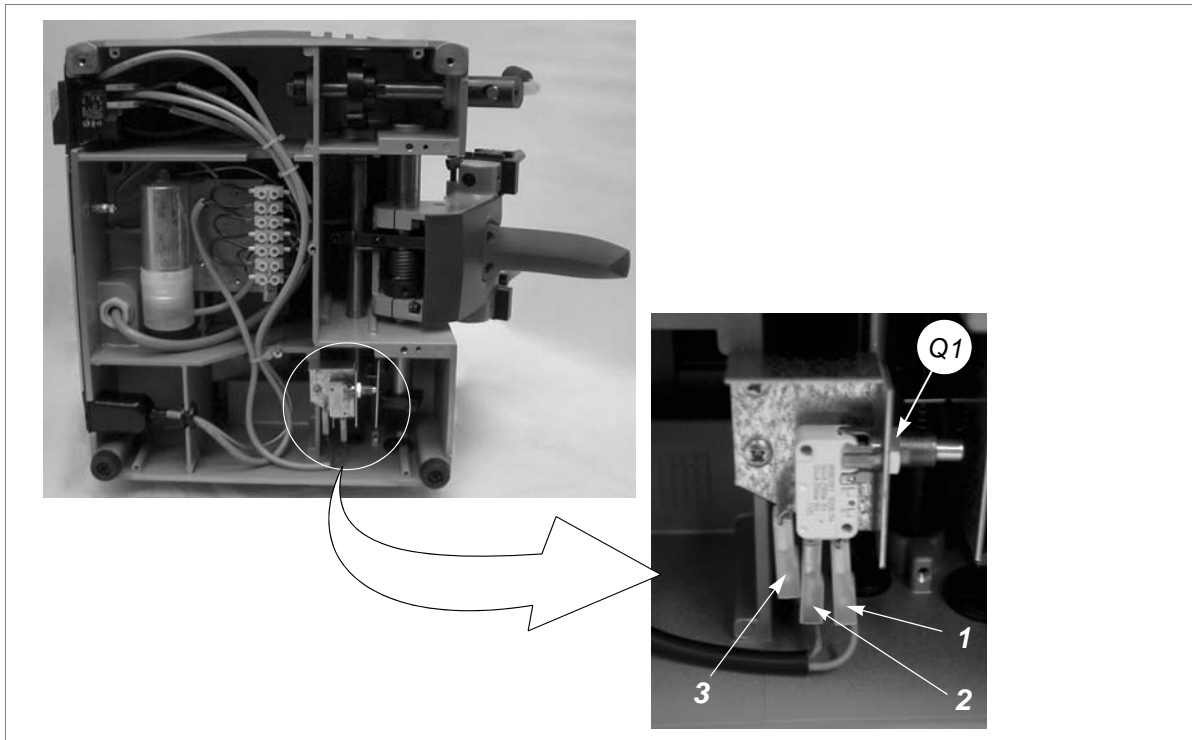

Fig. 29
- 4) Loosen the nut (Q1) and remove the microswitch (fig.29).